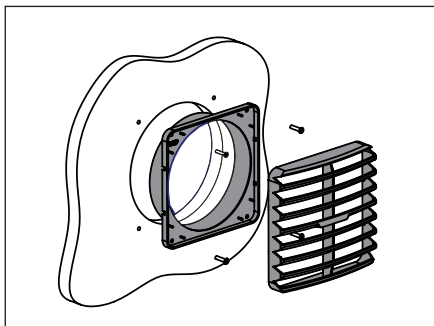

Fig. 17
3. Fix Grille base with four 6 G screws and snap fit the Grille louvres over the Grille base as shown in Fig. 17.